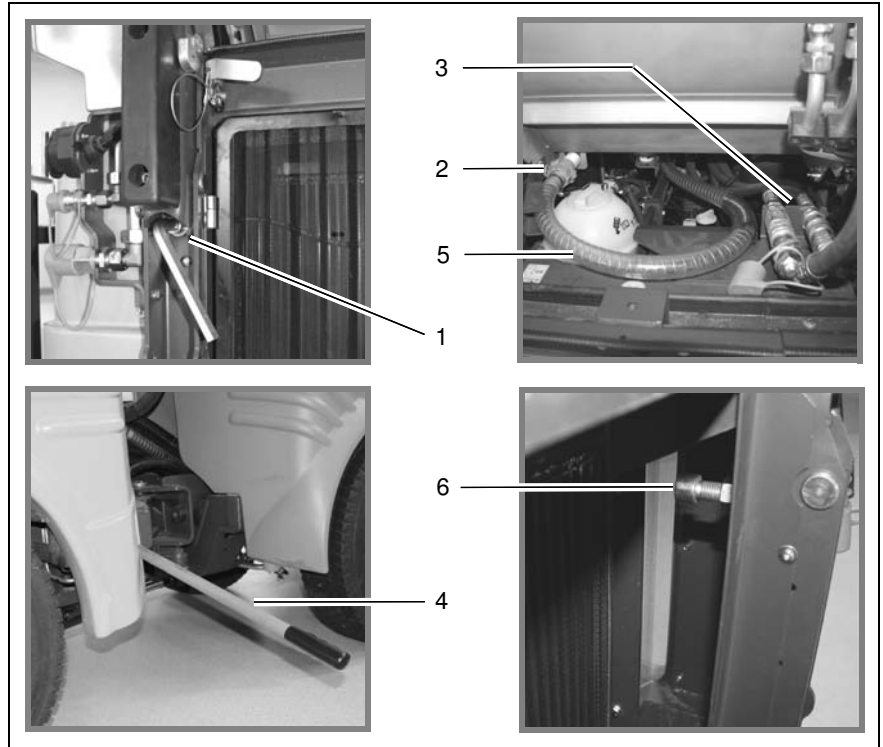

Fig.35
9. Align the dirt hopper with the two adjustment screws (Fig. 35/6).
10. Screw the rear support for the dirt hopper to the vehicle's rear section using the attachment screws (Fig. 35/1).
11. Connect the Geka coupling (Fig. 35/2) for the circulation water system.
12. Connect the hydraulic couplings (Fig. 35/3).
13. Raise the dirt hopper using the lever (Fig. 35/4).
14. In the upper dirt hopper position once again re-tighten the two attachment screws (Fig. 35/1)!
15. Check the position of the circulation water hose (Fig. 35/5)!